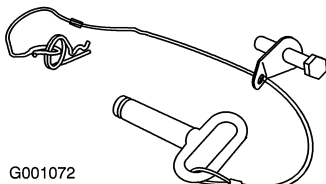

Figure 7
2. Install the lanyard clips onto the long bolts (1/2 x 3-1/4 inch) (Figure 7).